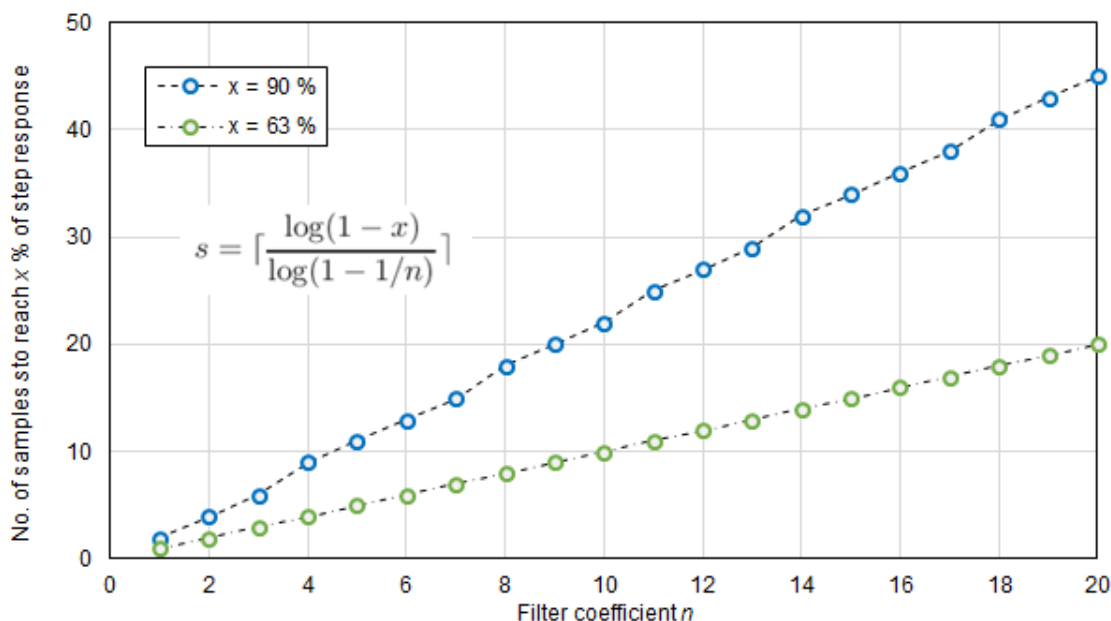

Fig. 13 Step response vs. filter coefficient
*) The EE895 features an exponential moving average filter which to a certain degree suppresses the influence of short-term CO₂ variations onto the output CO₂ data. The filter coefficient is user selectable and affects the response time of the EE895. A higher filter coefficient leads to smoother output data and to longer response time, see figure Fig. 12. Fig. 13 shows the number of samples required to reach 63% or 90% of a CO₂ step as function of the filter coefficient.